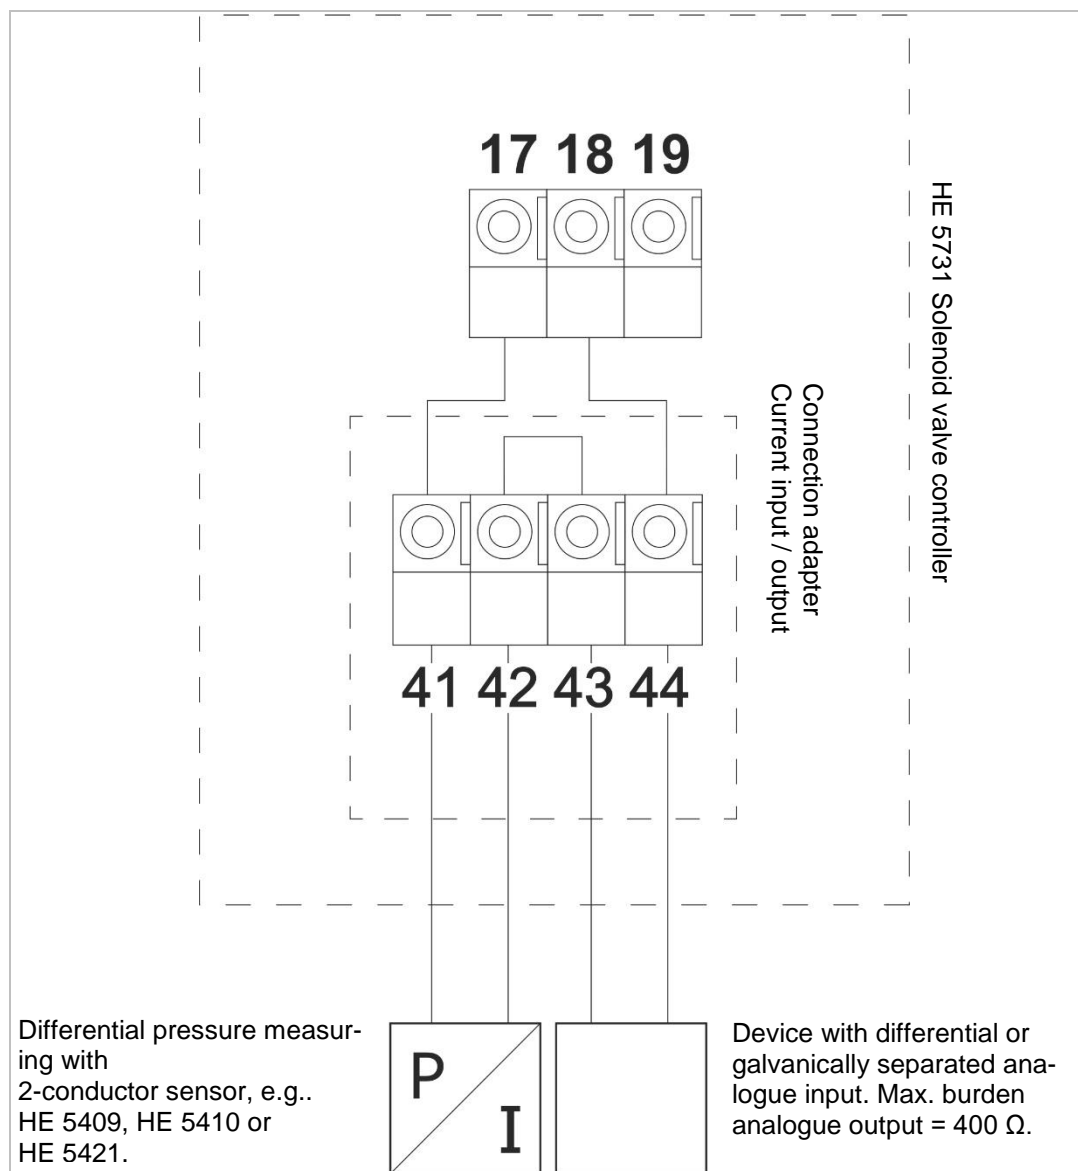

Figure 29. Connection adapter / terminals
3. Connect the external device (see Figure 29).